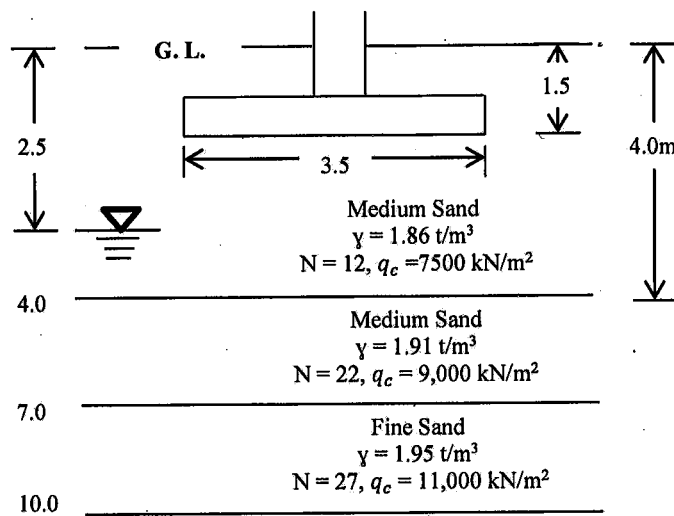

Fig. 1
1. An isolated footing (2.5 m x 2.5 m) in a building carries a superimposed load of 900 kN. The subsoil condition is shown in the figure (Fig. 1). Calculate total settlement of the foundation under the load using the following method: (i) Using SPT 'N' value, (ii) Using SCPT value and (iii) Elastic Method